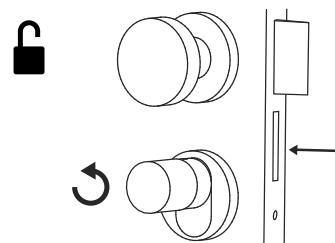
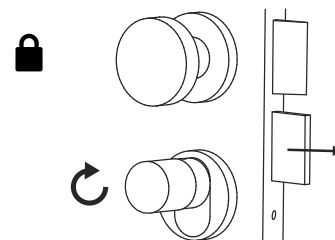

Fig. 2
Fig. 3
- 2 Depending on the cylinder, a visual acknowledgement is given by a red LED illuminating in the cylinder knob. The cylinder is now released and the lock can be opened (fig. 2) or locked (fig. 3).